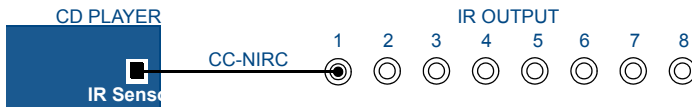

FIG. 3 Connecting IR Output to an IR Sensor on a controlled audio device
CC-NIRC NetLinX IR Emitter Cables attach to the controlled audio device's remote control (IR) sensor with double sided tape (included), and connect to the Tango Controller via the IR OUTPUT jacks on the rear panel (FIG. 3).